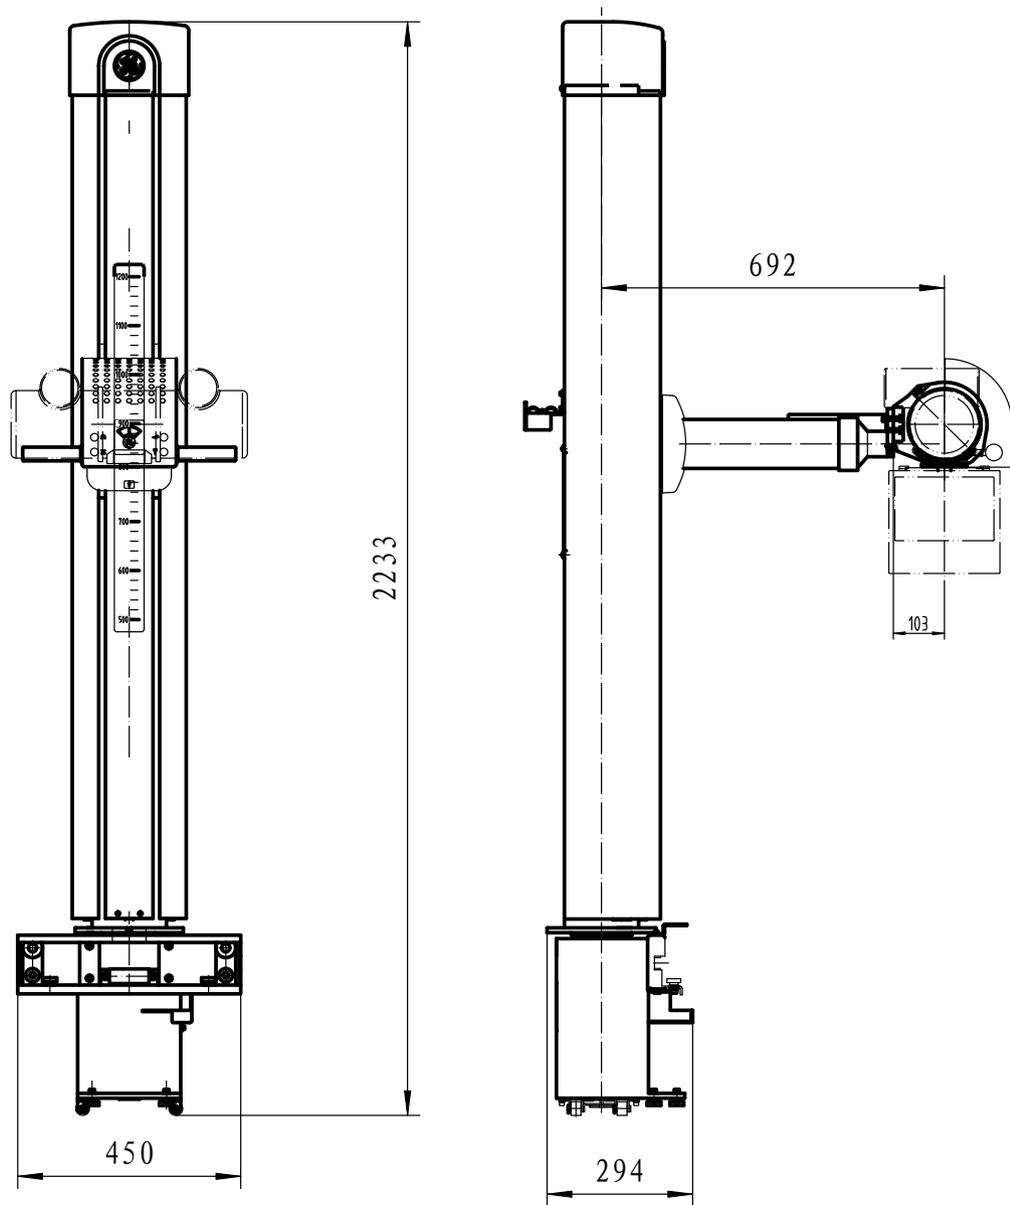

Figure 5-8 Standard Tube Stand
- Integrated Tube Stand - Figure 5-8.